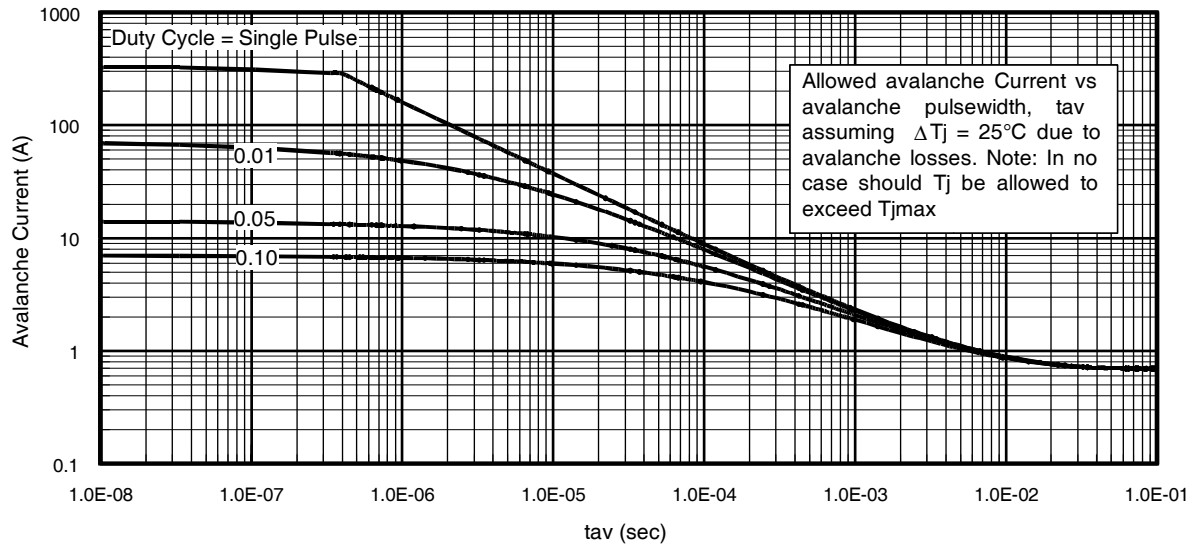

Fig 15. Typical Avalanche Current Vs. Pulsewidth
**Notes on Repetitive Avalanche Curves , Figures 15, 16:**
7.  $\Delta T$  = Allowable rise in junction temperature, not to exceed  $T_{jmax}$  (assumed as 25°C in Figure 15, 16).